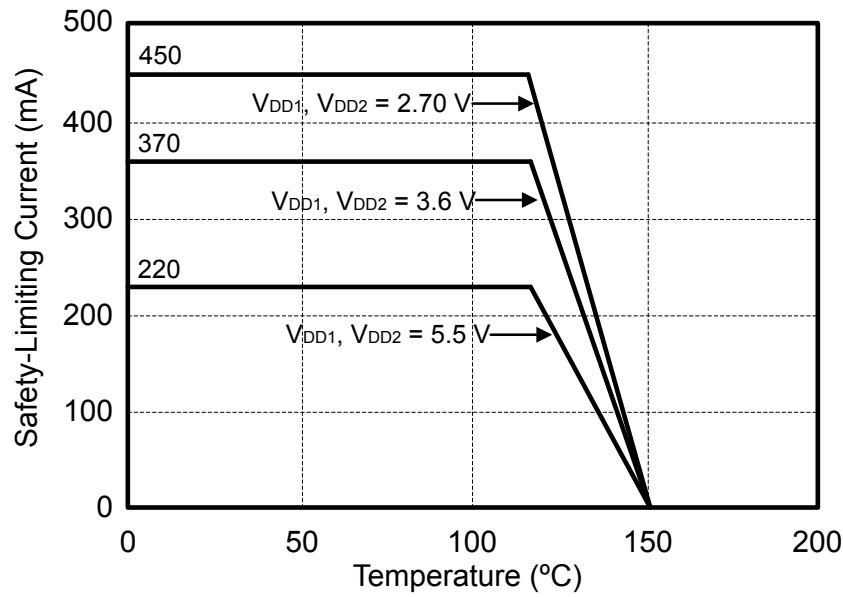
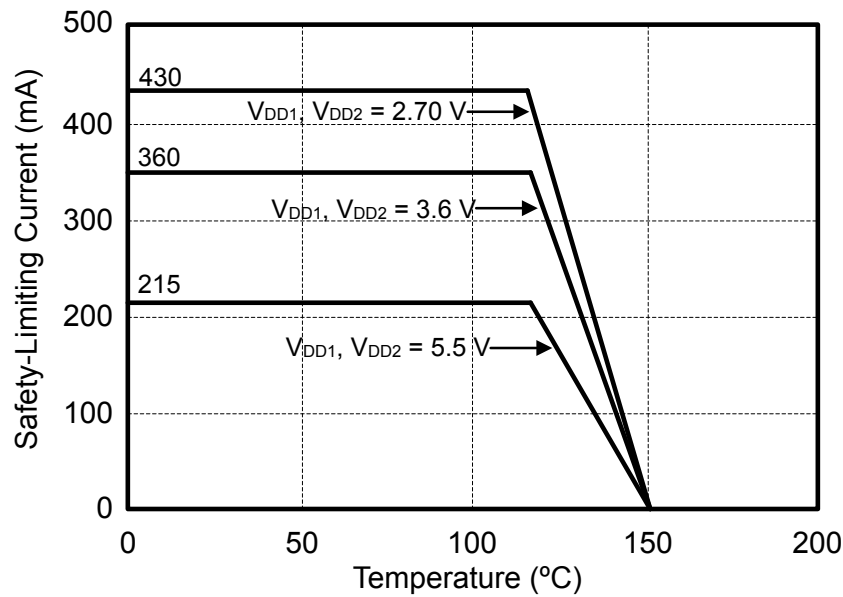
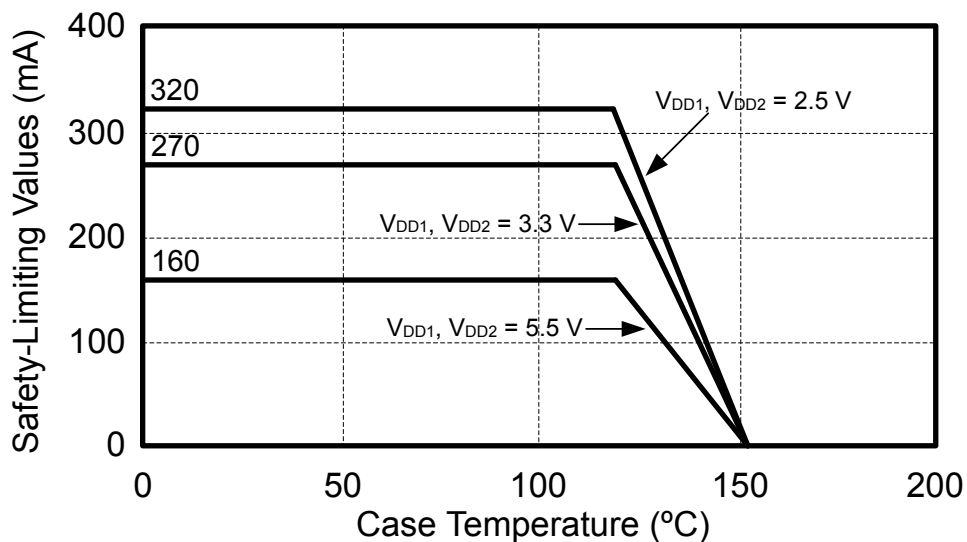
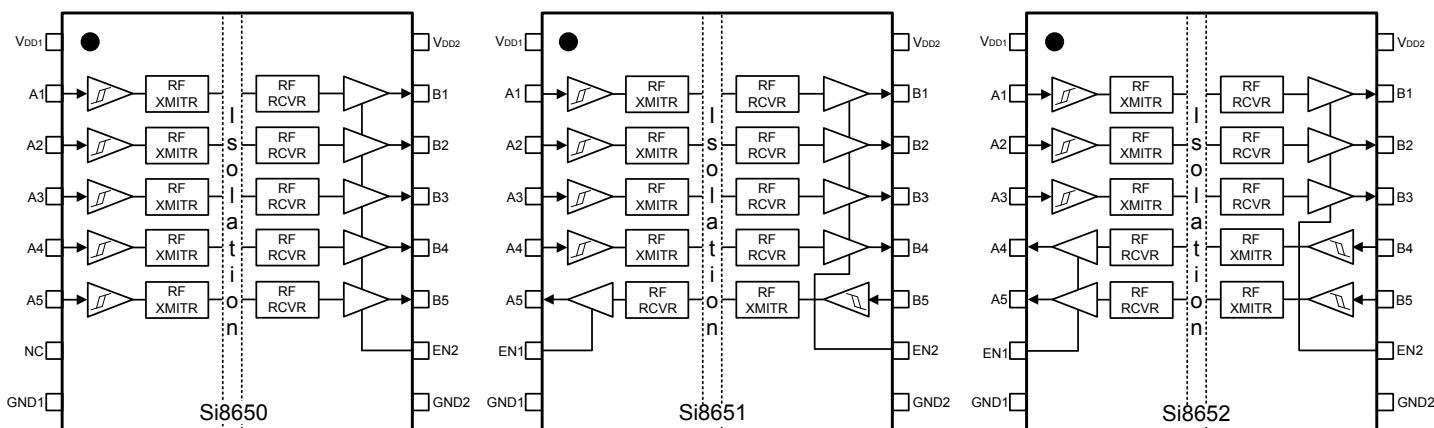

Figure 4.4. (WB SOIC-16) Thermal Derating Curve, Dependence of Safety Limiting Values with Case Temperature per DIN EN 60747-5-2
Figure 4.5. (NB SOIC-16) Thermal Derating Curve, Dependence of Safety Limiting Values with Case Temperature per DIN EN 60747-5-2
Figure 4.6. (NB SOIC-8) Thermal Derating Curve, Dependence of Safety Limiting Values with Case Temperature per DIN EN 60747-5-2
Figure 5.4. Si865x Pin Descriptions
1. Maximum value allowed in the event of a failure; also see the thermal derating curve in Figure 4.4 Figure 5.4 on page 28, Figure 4.5 Figure 5.5 on page 28 and Figure 4.6 Figure 5.6 on page 29.